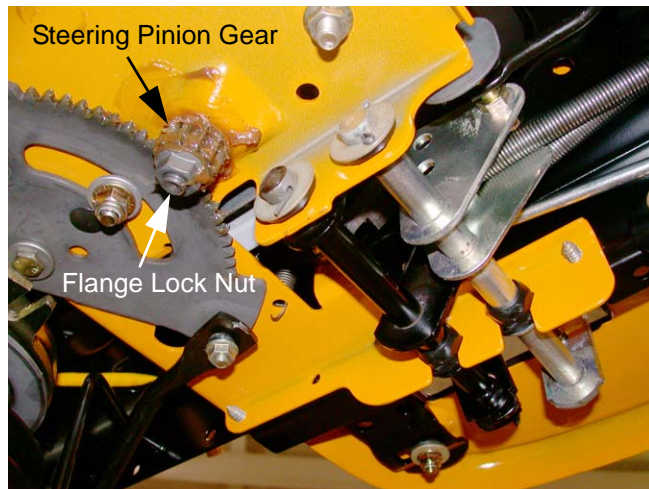

Figure 35.2
35.2. If you are just replacing the steering pinion gear, use a 11/16" socket to remove the flange lock nut securing the steering pinion gear to the steering shaft. See Figure 35.2.